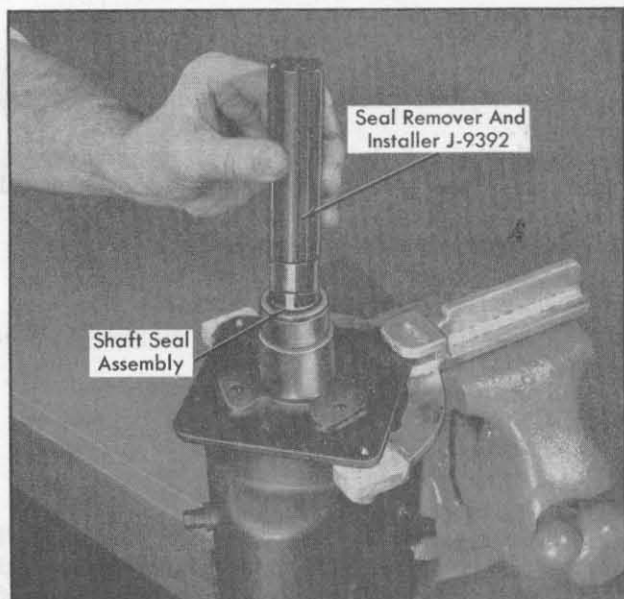

Fig. 1-70 Removing Shaft Seal Assembly
6. Remove shaft seal assembly using Seal Remover and Installer, J-9392, Fig. 1-70. Press down on tool to overcome seal spring pressure and twist tool clockwise to engage tabs on seal assembly with locking tangs on tool. Remove seal assembly by pulling straight out from shaft.